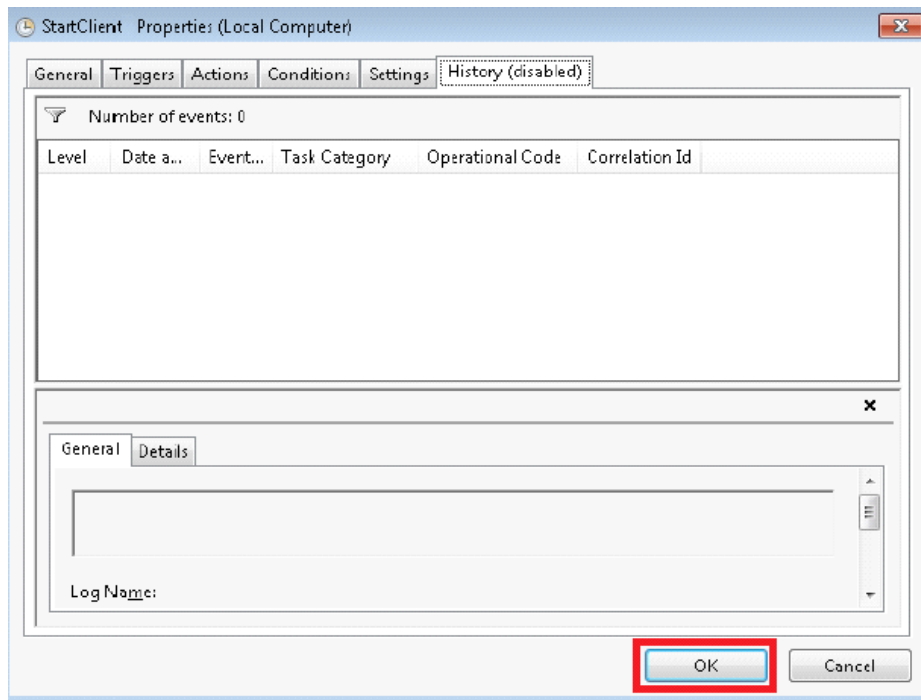

Fig. C.49: History tab
STEP 16 – Please select *History* tab, verify the options according to Fig. C.49, then click *OK* to confirm the changes in *StartClient Properties* and to come back to *Task Scheduler* application.